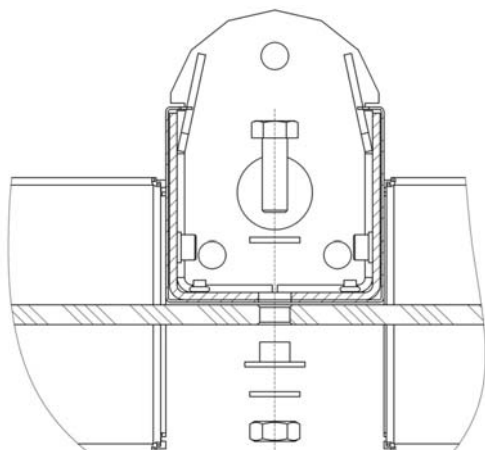

Figure 27. Filling glass fixing in the central post ID Gate 8500
7. Remove the front panels (8) from both posts.
8. Using S17 open-end and hexagon keys, untwist and remove 6 M10×30 screws with washers, plastic bushing and screws fixing the filling glass (two in the mounting arms of the side posts and two in the central post) (Fig. 27, 28).